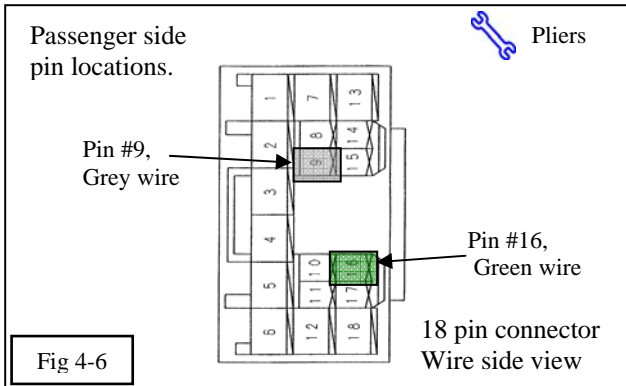

Fig 4-6
(1) There is more than one **GREEN** wire on the 18 pin connector, make sure you have the correct wire, Pin 16, before installing the scotch lock.
(2) Locate the **GREEN** wire, pin 16, on the 18 pin connector (Fig. 4-6).